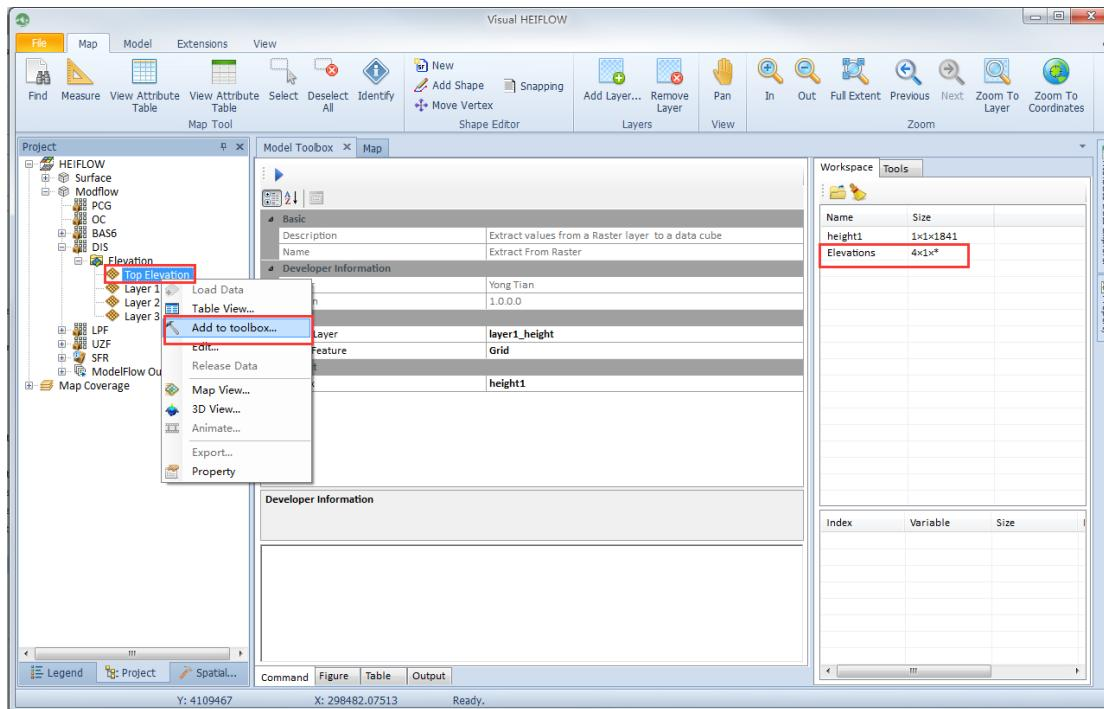

Figure 5-21. Adding the data cube variable “Elevations” to the workspace.
- 6) In the Project Explorer, locate to the item “Top Elevation”, right click on it and select “Add to toolbox...”. Then the data cube named “Elevations” will appear in the Workspace (Figure 5-21).